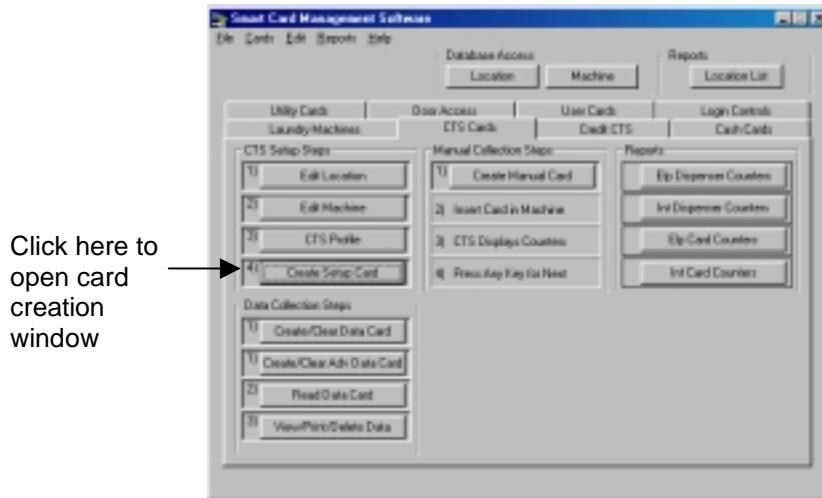

Figure 9.11 Creating Cash CTS Setup Card
1. In the Cash CTS Card tab, click the Create Setup Card button (Figure 9.11).